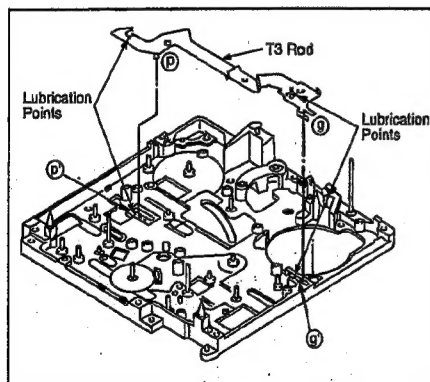

Fig. M32
17. Mode Gear & Main Cam Gear Fig. M32 When installing the T1 Arm Unit, the projection (j) on the Radon Arm Unit is aligned to guide (j') on the T1 Arm Unit by pushing the T1 Arm Unit.
18. T3 Rod & Brake Rod (Note of installation) Fig. M32 Remove the T3 Rod.